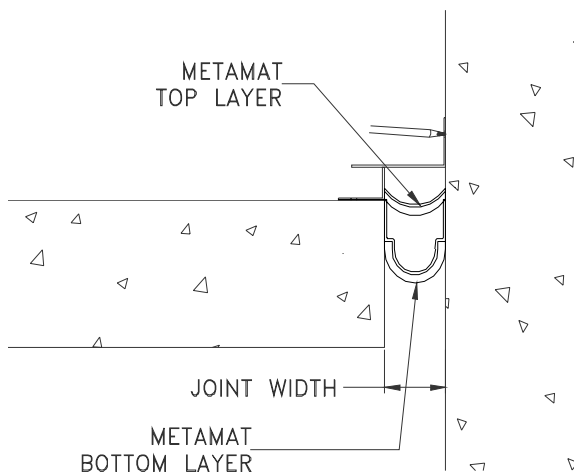

Figure 4
STEP 6. Select the joint cover system wall member. Place the wall member into its installed position over the MetaMat fire barrier's flanges on the wall. Using the joint cover system wall member as a template, mark the locations for the anchor holes on the flanges (Figure 4). Anchor spacing is 20" o.c. with anchors a minimum of 2" from each end of each wall member.